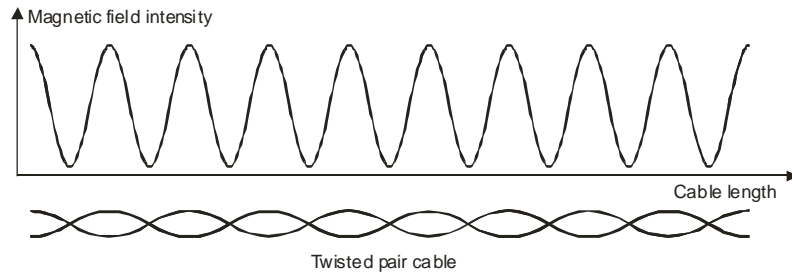

**Fig.4 Magnetic field detection**
Measurements can be performed in a closed circuit provided that a current flow can be induced in the circuit. This is the case in a healthy line with line's voltage exceeding 9V (the circuit is closed by a transformer) and also in a shorted line, using the „M+E” mode or an external power source. In all described situations the detection is done by evaluating the magnetic component of the field. Fig.4 illustrates the direction of the magnetic field lines around the cable in which the modulated current flows, and the placement of the receiver allowing for the highest possible intensity of the received signal.
- Move the receiver's antenna along the tested line (Fig.4) trying to follow the maximum strength of the signal. Press the **16**  button to increase the precision (section 7.1).